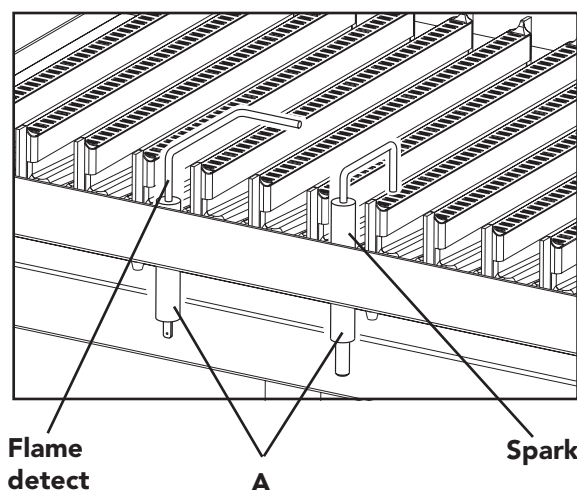

Fig. 37
7.12 Spark or flame detect electrode (fig. 37)